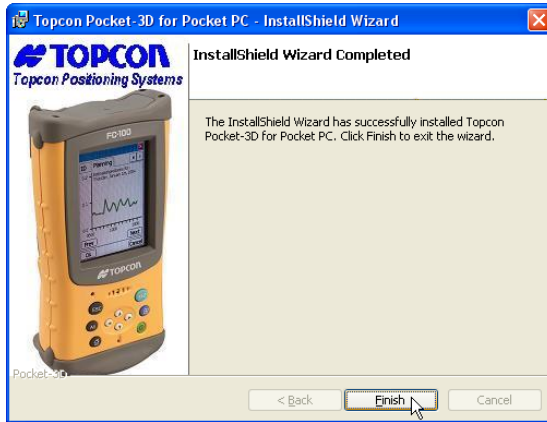

Figure 1-7. Finish Install and Exit
9. Click **Finish** to exit the install program (Figure 1-7).